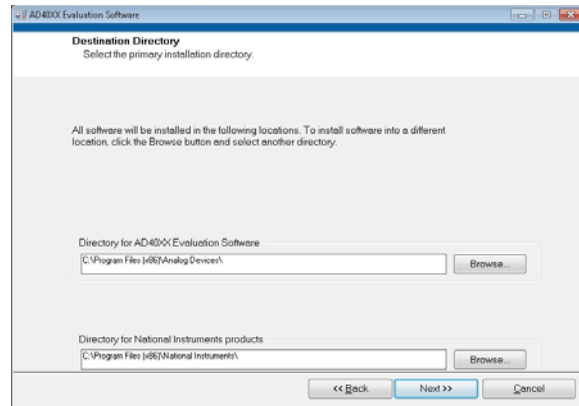

Figure 4. Destination Directory
4. Click **Browse** and choose the folder location for installation, and then click **Next>>**. The default folder is shown in Figure 4.